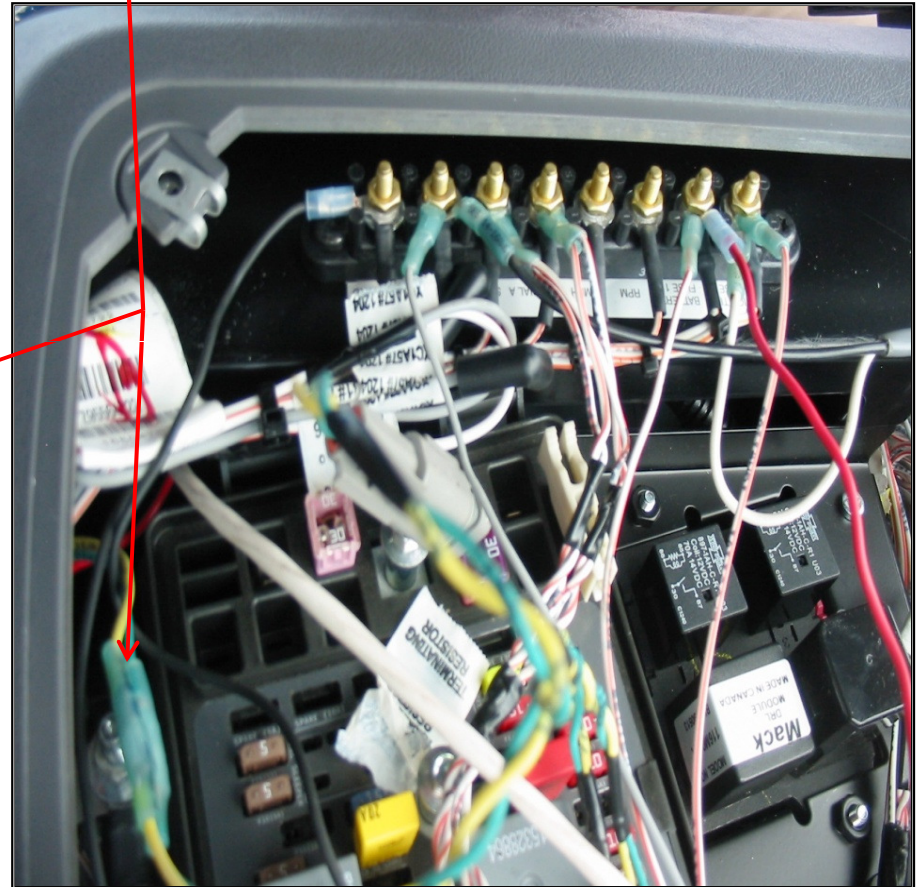

Figure 2
2. Each threaded lug in the fuse relay panel is clearly marked i.e. power, ground, ignition and J1587. Connect each wire to its corresponding threaded lug. Refer to “Figure 2”.
4. To install the “**DTY20652, J1939 “Y” cable**” at terminating resistor; identify wires (1) green, (1) yellow and tagged J1939.